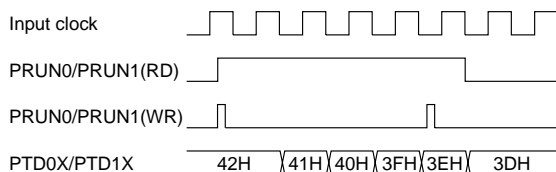

Fig. 5.10.12.1 Timing chart of RUN/STOP control
- (1) The programmable timer is actually made to RUN/STOP in synchronization with the falling edge of the input clock after writing to the PRUN0(1) register. Consequently, when "0" is written to the PRUN0(1), the timer shifts to STOP status when the counter is decremented "1". The PRUN0(1) maintains "1" for reading until the timer actually shifts to STOP status. Figure 5.10.12.1 shows the timing chart of the RUN/STOP control.